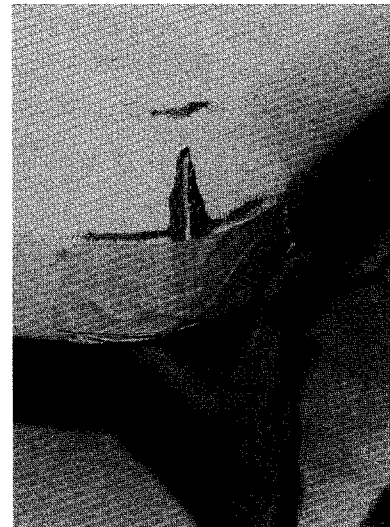

Figure 14-3
3. A large patch or tear should be repaired by using masking tape over the painted side of the hole or tear. Extend the tape at least 2" to 3" beyond the edge of the break (Figure 14-3). The back side of the damaged area should be cleaned thoroughly with a clean rag.